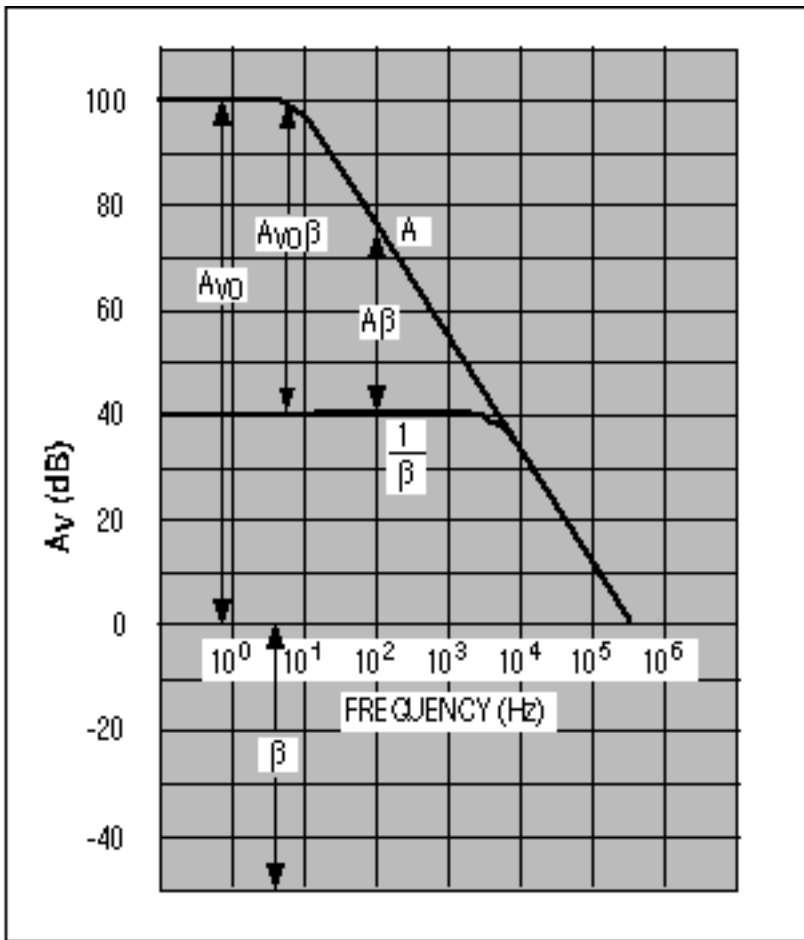

Figure 9. Output impedance generally rises with frequency.
Remember that high loop gain is necessary for low output impedance, according to the equation $R_{OUT} = R_O / (1 + A_{VO}\beta)$, where R_O is the open-loop output impedance and $A_{VO}\beta$ is the loop gain. $A_{VO}\beta$ decreases as you approach the op amp's unity-gain crossover frequency, leading to increased output impedance (**Figure 9**). Higher output impedance makes it difficult for the amplifier to handle current spikes from the ADC.
The Bode diagram of Figure 9 also depicts, for the noninverting circuit, the relationships between open-loop gain (A), the feedback-attenuation factor (β), noise gain ($1/\beta$), and loop gain ($A\beta$, or $A_{VO}\beta$ at DC) as functions of frequency. Figure 9 shows the variation of open-loop gain vs. frequency for a typical operational amplifier. At very low frequencies, the DC open-loop gain (A_{VO}) is near 100dB. Also note that the logarithm of the feedback-attenuation factor is negative because it represents a reduction in the signal amplitude.